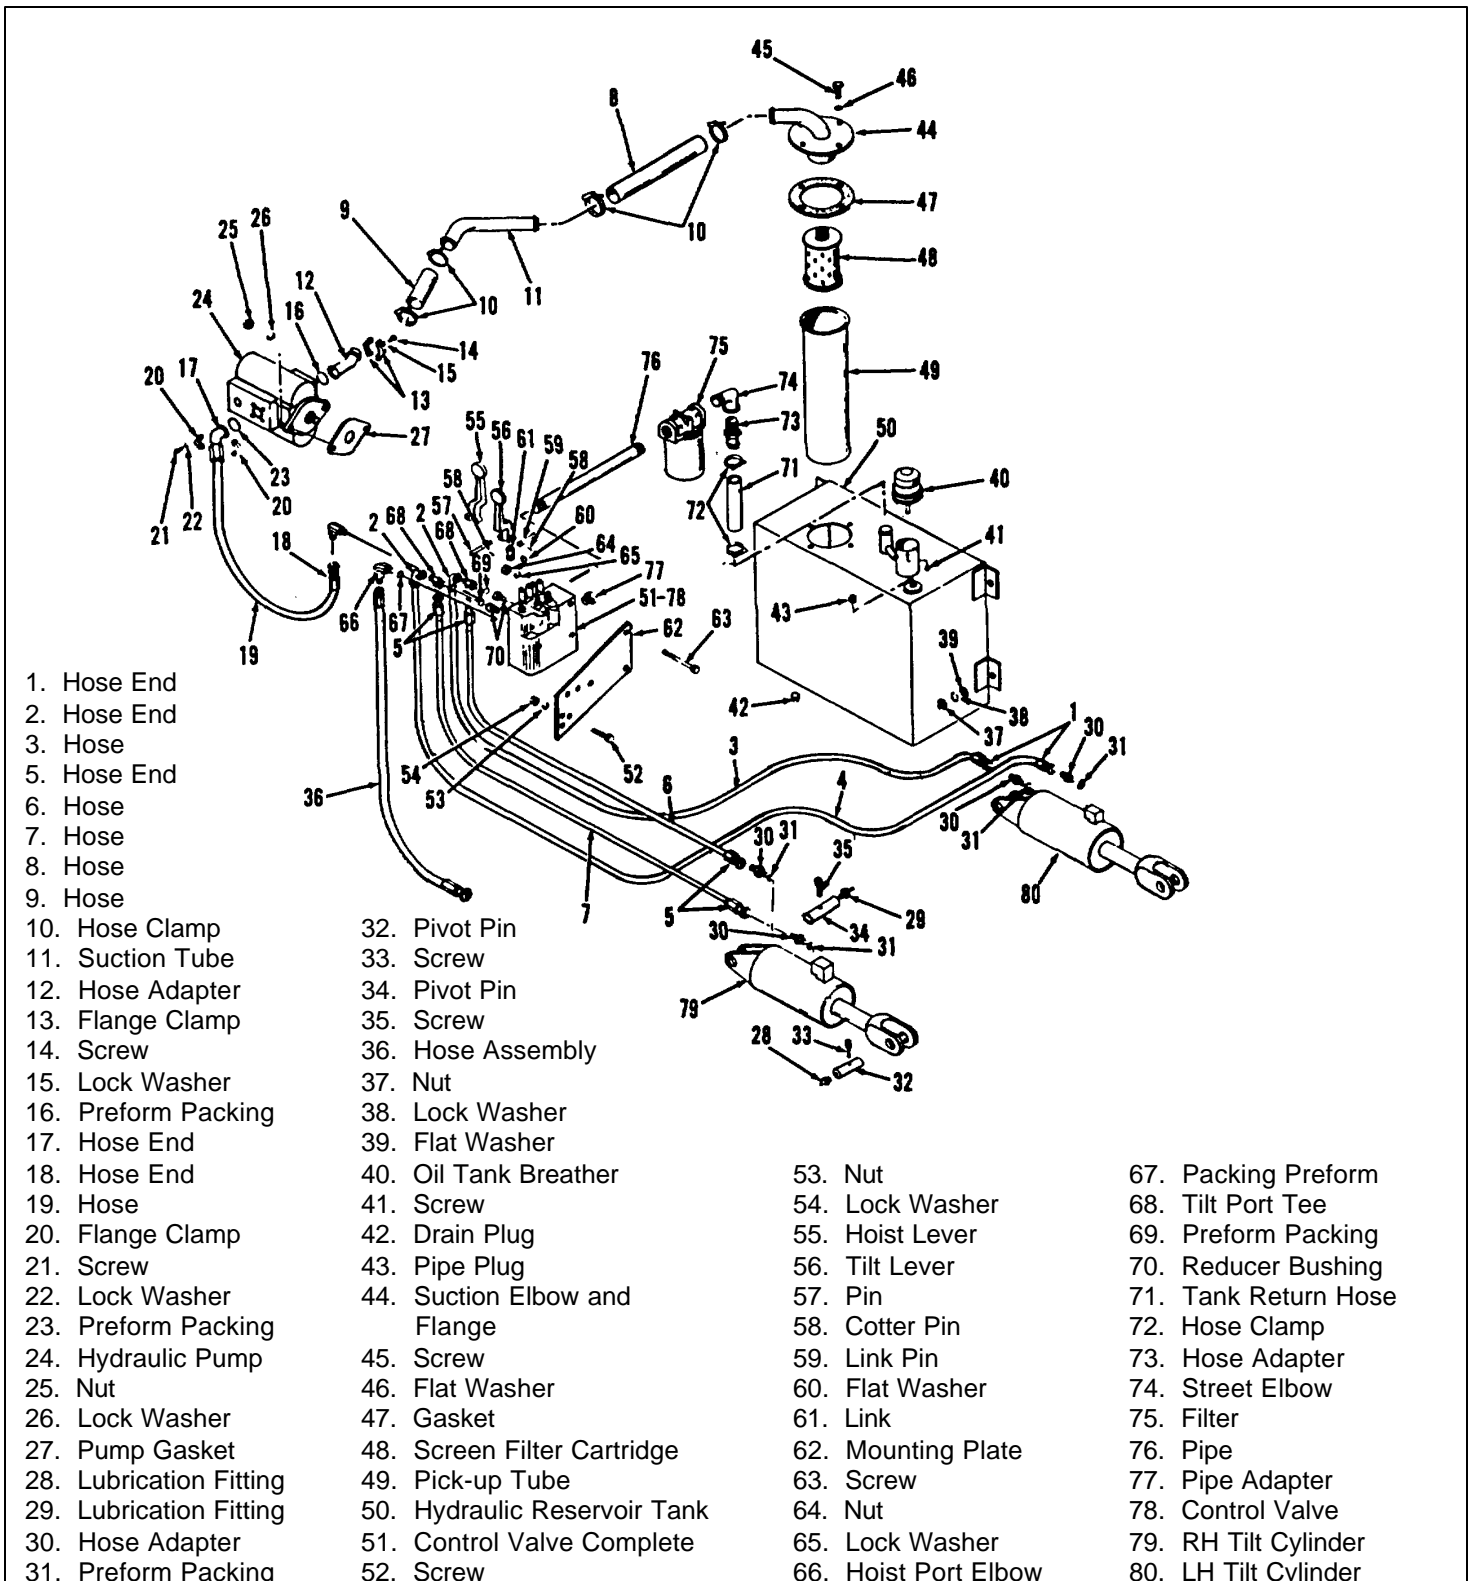

Figure 4-2. Hydraulic System Including Tilt Cylinders
3. Remove lock screws from pins, and drive out pins (see figure 4-2) which attach tilt cylinders to outer uprights. Lift load backrest and forks off carriage.
1. Remove cotter pins (58, figure 4-2) and remove pins (57 and 59), links (61) and operating levers (55 and 56).
4-36. REMOVAL. If pump (24, figure 4-2) is to be removed from above, drain cooling system and remove radiator first, for access to pump. Then remove pump as follows:
2. Remove hydraulic fluid from tank. Either remove plug (42, figure 4-2) from bottom of tank and drain fluid into large container, or use a suction transfer pump, with pickup hose inserted to bottom of tank through fill opening.
3. Disconnect suction and return line hoses nearest tank (see figure 4-2). Remove four attaching nuts, lock washers and flat washers, take tank from mounting studs on frame and remove tank from underside of truck.
1. Remove screws (45, figure 4-2), washers (46) and take filter flange (44) and gasket (47) from tank. Unscrew filter element (48) from flange, and lift out tube (49).
2. Remove combination fill cap dipstick (40).